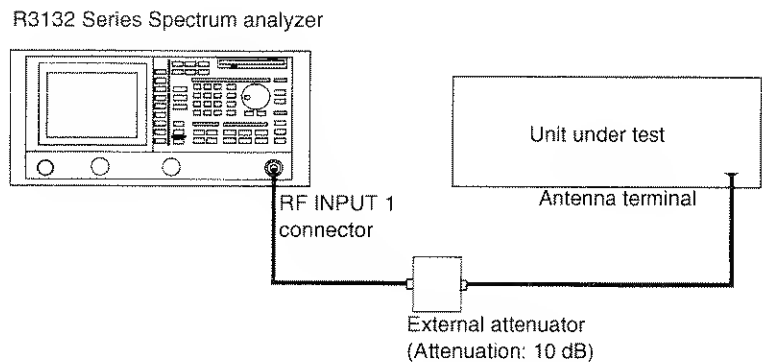

Figure 2-48 Setup for Measuring the Channel Power
1. Connect the transmitter as shown in Figure 2-48.